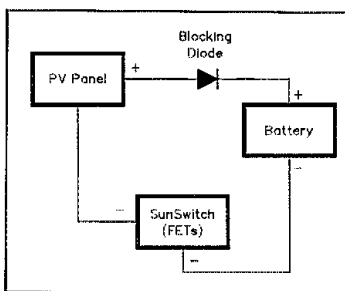

Fig 2—A block diagram of a typical SunSwitch system. The blocking diode is physically mounted on the SunSwitch PC board.
Q1 and Q2 are in the battery's negative lead. There is, however, one drawback to this scheme: You can't connect the negative side of the array and the negative side of the battery and then ground them. If you do, you'll defeat the SunSwitch and overcharge your batteries. Fig 2 details where the FETs are located in the circuit, along with the array and the battery. The blocking diode is in the positive side of the array and battery.
Fig 2—Equivalent driver circuit (at the fundamental frequency). At A is the output network of the driver and the amplifier input network, connected by a length of transmission line. This network can be treated as three lengths of transmission line with transformers at each end (B). From this, the equivalent generator voltage and line impedance can be derived (C).
In a grounded-grid amplifier, all of the anode current in the output circuit also flows through the input circuit. Any change in the anode circuit's load resistance (loading) causes a change in the input resistance. Any internal resistance in the driver allows some variation in the drive voltage. The change is small if the driver resistance is low, but if the driver resistance is high, the voltage change can be nearly as large (in percent) as the resistance change. Fig 2 helps clarify this point. On any given frequency, a lossless RF network can be represented by an ideal transformer and a length of transmission line. The first network is the output network of the driver transmitter, and the second is the input circuit of the grounded-grid amplifier. They are connected with a length of transmission line (Fig 2A).